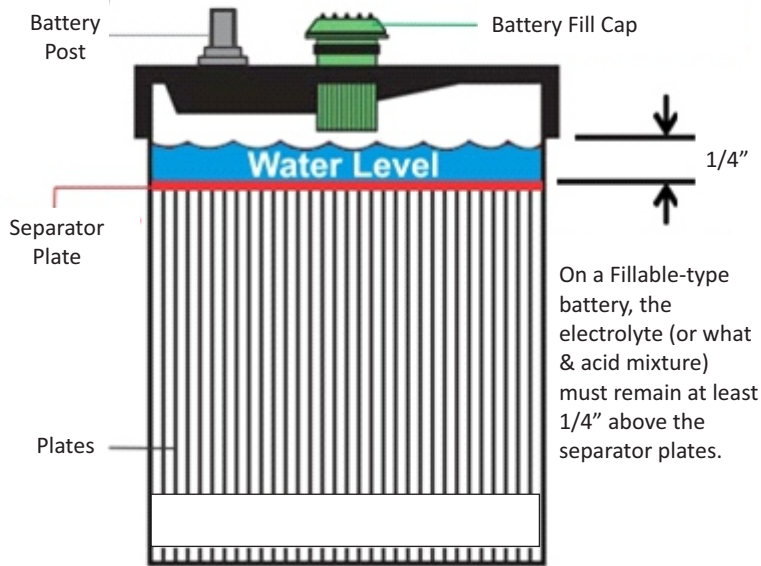

Fig. 2.5.4 Battery Water Level
- (Refer to Figure 2.5.4 on next page) open the covers of the cells (vent cap) of the open type battery.